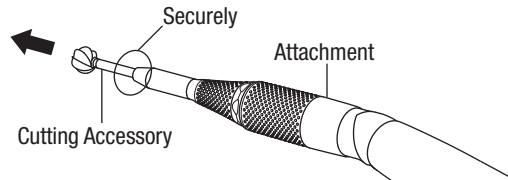

Fig.5
- 3** Pull the Cutting Accessory lightly to confirm that it is securely connected to the attachment (Fig.5).